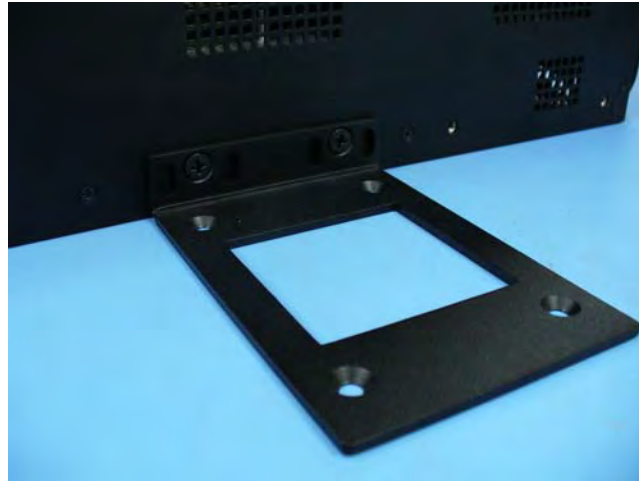

Figure 23. Using Hub Rack-Mounting Brackets for Direct Wall Installation
- 2 Mount both of the rack mounting brackets using #10-32 machine screws, as shown in Figure 23.